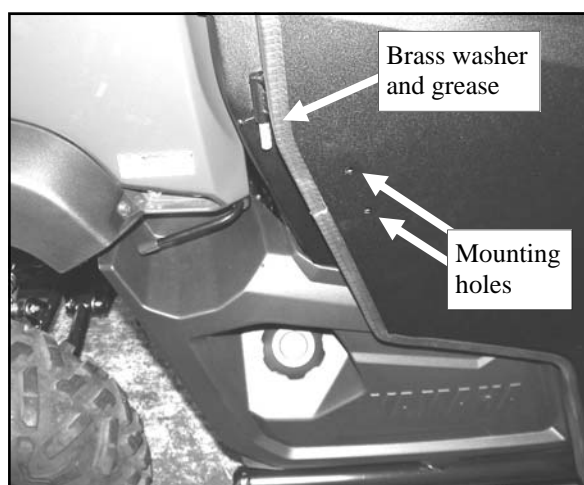

Fig. 11.2 (View of lower right door)
11.2 See fig. 11.2. Use the following hardware: